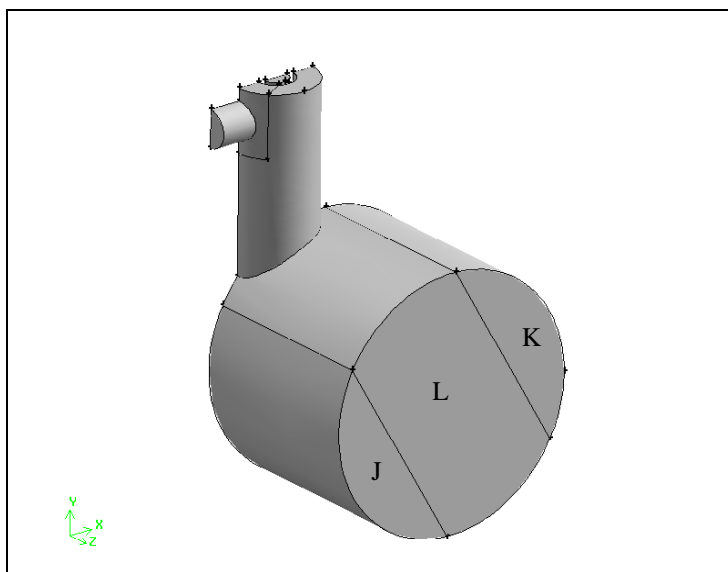

Figure 7-41: Volumes to be meshed
1. Mesh the volumes marked J and K in Figure 7-41.
- a) Select the volumes marked J and K in Figure 7-41 in the graphics window.
2. Mesh the volume marked L in Figure 7-41.
- a) Select the volume marked L in Figure 7-41 in the graphics window.